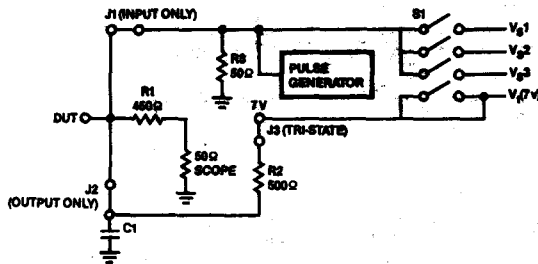

Figure 5. Signetics PCB Fixture Schematic
There are two types of signal lines on this fixture: input and output; both of which are 50 Ω transmission lines. The input line is on the top side of the board and is always terminated in 50 Ω . It is connected to the DUT via a .3" jumper, Jumper #1 for input. When this jumper is installed, the DUT pin is available only as an input. To allow this line to be used as an output, a .1" jumper, Jumper #1 for output, is used instead of the .3" jumper. This connects the DUT pin to the AC load when the DUT pin is an output. See Figure 5.
hard to detect errors into the waveform. The second reason being that most suppliers of these technologies provide data based upon the Low-impedance approach and most large users of these products do so as well. This also allows the fixture to be used for ECL testing since that product uses a totally 50Ω environment. Figure 5 illustrates how this test fixture implements the 50pF/500Ω load schematically.
As illustrated in Figure 5, the load is shared with the 50Ω input of the measurement system; a 50Ω sampling oscilloscope. The 450Ω resistor: R1, is soldered to the socket pin of the device and is in series with the 50Ω input of the scope. Figure 6 illustrates this on the board layout of one input/output pin. This allows virtually a probe tip on the device pin. The load capacitor: C1, is a 33pF ceramic chip capacitor. This is added to the measured value of 17pF of board capacitance, achieving the 50pF value specified for the load. The distance from the pin to the capacitor is .5 inches and is adequate for the testing of these product families.
For testing 3-State parameters, the 500Ω resistor: R2, is connected to its pull-up supply, V_I via a .3" jumper: Jumper #2. The V_I supply is bussed to each pin and may or may not be connected with that jumper. See Figures 5 and 6.
When the input is not used for a signal input, the line may be switched to one of three voltage sources: $V_s 1$ through $V_s 3$, by the use of a DIP switch on each pin. It may also be left open and then the 50Ω pull-down resistor: R1, pulls the line to ground and can be used as a hard low level. See Figure 5. These voltage levels are brought in from external supplies through banana connectors like V_{CC} . This scheme eliminates excessive cabling to each input to provide the static input levels and thereby reduces parasitic inductances and cross-talk. Each of the 3 busses and the V_I bus all have places for by-pass capacitors in the event of noise on the static levels. Figure 8 illustrates the DIP switch and SMB connectors and how they control the input stimulus and output measurement.
dedicated fixture. However, on a dedicated fixture, the pins are individually constructed to be either an input or an output, and in so doing, the fixture is usable for 1-to-4 devices. The Signetics fixture, once dedicated to a particular V_{CC} and GND configuration, is built up to have both input and output components on all signal pins. The selection of which pin is an output or an input is made by inserting the appropriate jumper. See Figures 5 and 6. The same applies in doing tri-state testing. The tradeoff here is that it would probably take less time to setup the dedicated fixture than the Signetics fixture. To help compensate for that tradeoff, we have the three V_s supplies that may be switched into any pin to provide input static levels and eliminate the need to bus input High or Low levels by external cabling. For the user that means the only connections being made to the fixture are:
- the V_I supply (banana jack): this is the tri-state pull-up voltage and is permanently connected to the bus to each pin. It is selectable by Jumper #2, see Figures 5 and 6. For FAST and ALS products this is $7V$. For ACL products this is $V_{CC} \times 2$ and it is not used for ECL applications.